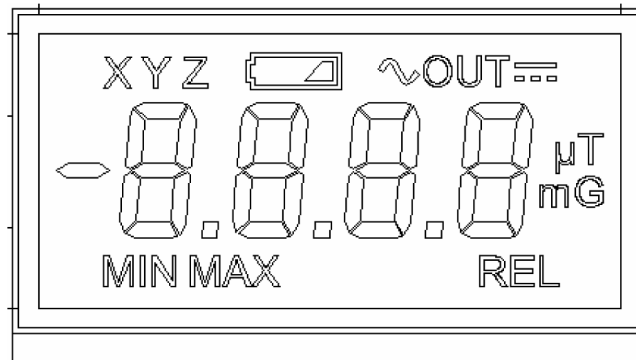
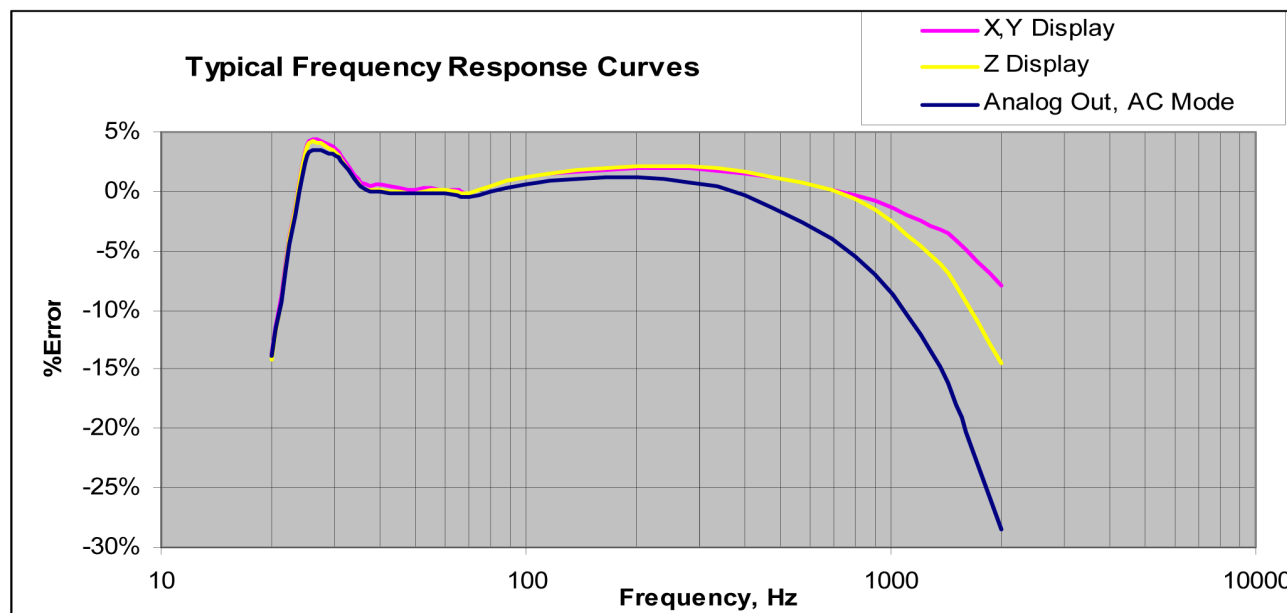

Figure 3-3
Figure 3.5
- 5 **RELATIVE / OUTPUT.** When REL is selected, the meter will establish the present field level as the “new” zero point. This feature is useful for measuring field changes relative to a field level other than zero. Model 4190 only: By pressing SHIFT- REL, the analog output is activated and a DC or AC signal proportional to the field magnitude will be available at the analog output 3.5mm connector. The 4100 Series does not respond to DC fields, but a DC analog voltage output proportional to the field level is available and may be more easily connected to a data acquisition system or other equipment. Calibration is set to 2.0 Vdc full scale when the analog output is set to the DC mode (OUT---). If the meter is operating on the low range then 2.0Vdc will correspond to 200mG or 20 μ T. If the meter is operating on the high range, then 2.0Vdc will correspond to 2000mG or 200 μ T. For example, 1.32Vdc could represent either 132.0mG or 1320mG depending which range the meter is on. The output when set to AC mode will be a time-varying signal which will allow the user to view the waveform on an oscilloscope if desired. The AC output is calibrated to 1.0VacRMS full scale and follows the typical frequency response curve as shown in Fig. 3.5. Just like the DC mode, the AC output signal voltage may represent different field levels depending on whether the meter is operating in low or high range.
Low Battery Indicator: The low battery indicator is activated when the battery voltage falls below approximately 4.44 volts. The indicator is found on the top center section of the display. See figure 3-3.
UNITS: The units for the field level readings are found on the right-hand side of the display. By pressing the UNITS key, the meter will toggle between μT or mG . This function is operational while the HOLD or REL functions are active. See figure 3-3.
MIN / MAX (HOLD): (Model 4190 only) When the HOLD function is activated with the SHIFT- HOLD key sequence, MIN will be shown in the bottom left hand side of the LCD. Pressing the SHIFT-HOLD sequence a second time will display MAX, and a third time will turn the HOLD mode off again. The meter will record the highest reading when in MAX HOLD mode (or the lowest reading when in the MIN HOLD mode) since the time HOLD was activated or the reading was RESET. This function can be used in conjunction with RESET. By pressing the SHIFT- RESET key sequence, the held reading will reset to the present level. See figure 3-3.
REL: When performing a relative measurement, the REL indicator will become visible on the bottom right-hand side of the display. See figure 3-3.
Analog OUTPUT: When the analog output is activated, the indicator “OUT” is visible accompanied by either the DC (—) or the AC (~) symbol. This feature is only functional on the Model 4190. By pressing the SHIFT–OUTPUT key sequence the meter will switch between output off, DC OUT, or AC OUT. See figure 3-3. In DC OUT mode the signal is calibrated to 2.0Vdc full scale. In AC OUT the signal is a waveform calibrated to 1.0VacRMS full scale and rolls off at higher frequencies due to the filtering in the output circuit. This is typically $\pm 3\%$ from about 30 to 500Hz, decreasing to -3dB at 20 and 2000Hz. See Fig. 3.5 for a typical response curve. AC output (~) is only available in the single axis modes. In XYZ mode only a DC analog output is available.